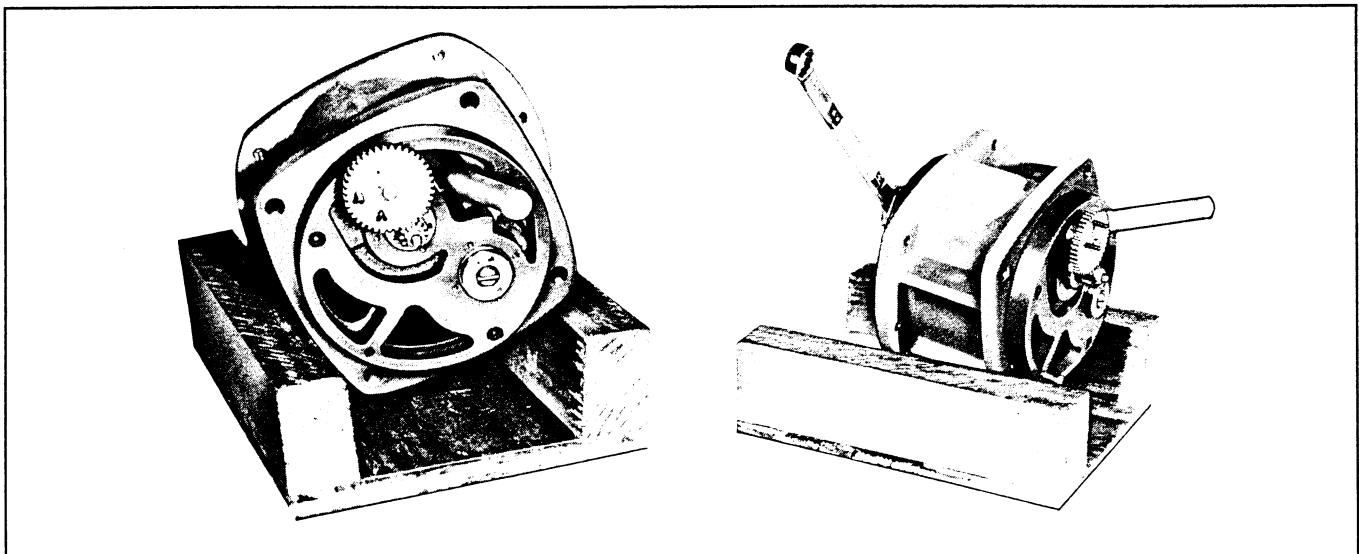

Figure 4-1 Proper Method for Blocking Rotors
2. Loosen the two set screws (item 19) on the driven gear (item 34) and remove the gear, washers (item 12), and coupling jaw shaft (item 16).
3. Remove retaining ring (item 25) and washer (item 12). Loosen set screws (item 19) on the idler gear (item 17) and remove the gear, bushing (item 32) and washer (item 18).
4. Remove retaining ring (item 25) and bearing key (item 20 or 24) from the shaft (item 10) protruding from the 3-tooth rotor (item 5).
5. Block the rotors with a plastic or wooden dowel as illustrated in Figure 4-1.
6. Remove the screw (item 22), washers (items 21 and 23) and bearing key (item 24) from the shaft of the 4-tooth rotor (item 4).